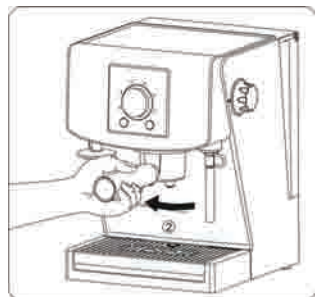
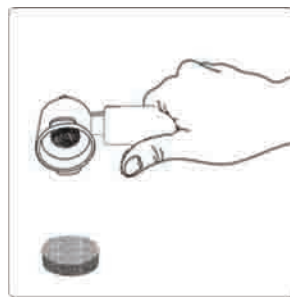
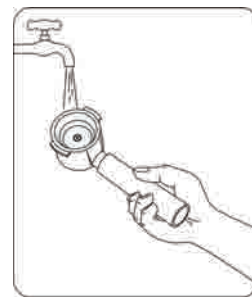

Fig. 5
Fig. 6
Fig. 7
- 8.16. Take off the filter holder by turning it left **(Fig. 5)**, then throw away the used bag or coffee grounds **(Fig. 6)**. Clean the filter with water **(Fig. 7)**.
- 9.16. Take off the filter holder by turning it left (**Fig. 5**), then throw away the used bag or coffee grounds (**Fig. 6**). Clean the filter with water (**Fig. 7**).